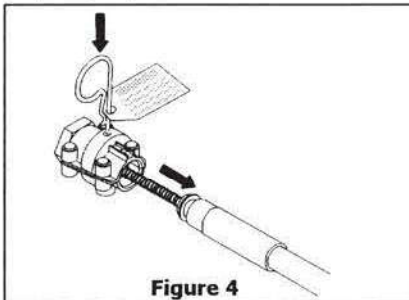

Figure 4
STEP 2. Place end of hitch pin in hole as shown and apply pressure while pulling the cable body away from the helm (See Figure 4)